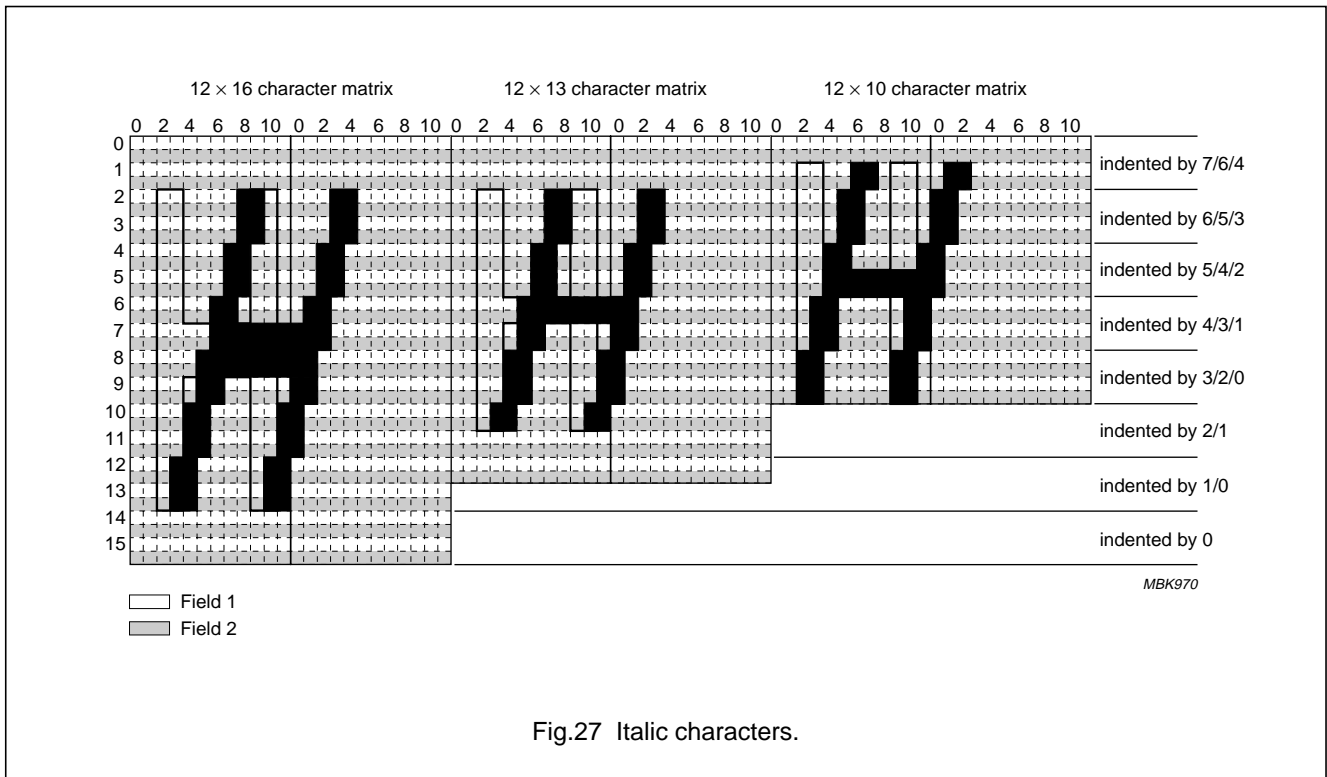

Fig.27 Italic characters.
**CC:** This attribute is valid from the time set until the end of a row of a display window, or otherwise modified. The attribute causes the character foreground pixels to be offset horizontally by 1 pixel per 4 scan lines (interlaced mode). The base is the bottom left character matrix pixel. The pattern of the character is indented, as shown in Fig.27.